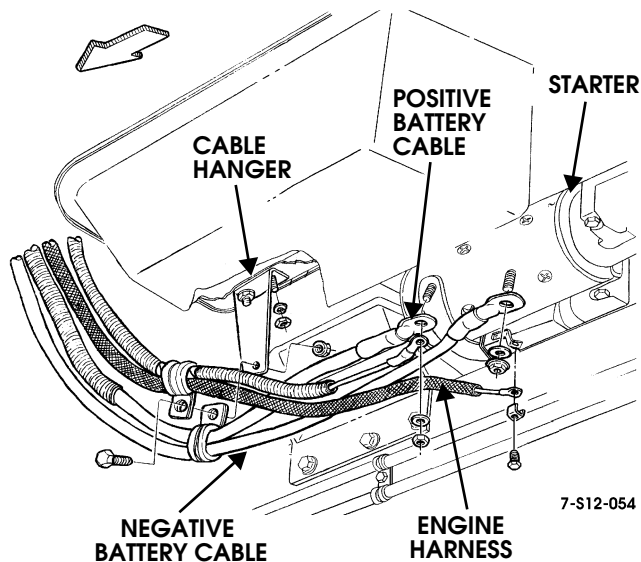

Figure 12-28: Negative Cable to Cylinder Block Attachment
4. Remove fasteners securing negative cable to cable hanger and starter then remove negative cable (Figure 12-28).